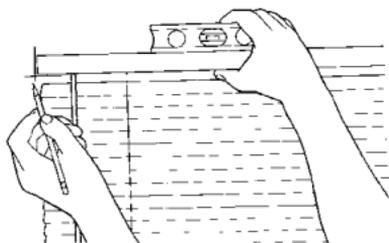

Figure C1
4. Once the blind is level, mark the wall at the lower corners of each end of the headrail using a pencil (See Figure C1)